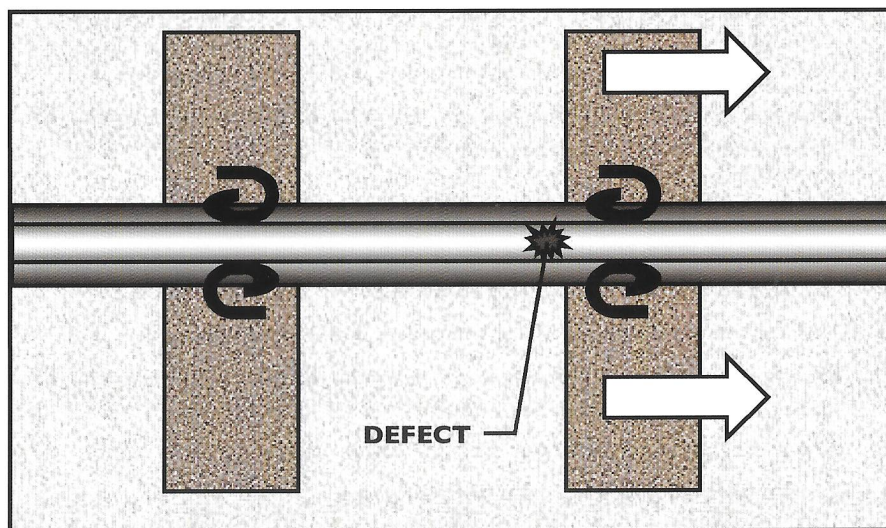

Figure 12 The RH sleeper will have to be moved so that the plates and clamps can be mounted centrally around the defect.
1. Check to see if sleeper respacing is necessary (see figure 12 below). The clamp plates must be located centrally on the defect and there must be sufficient room to apply the clamps.